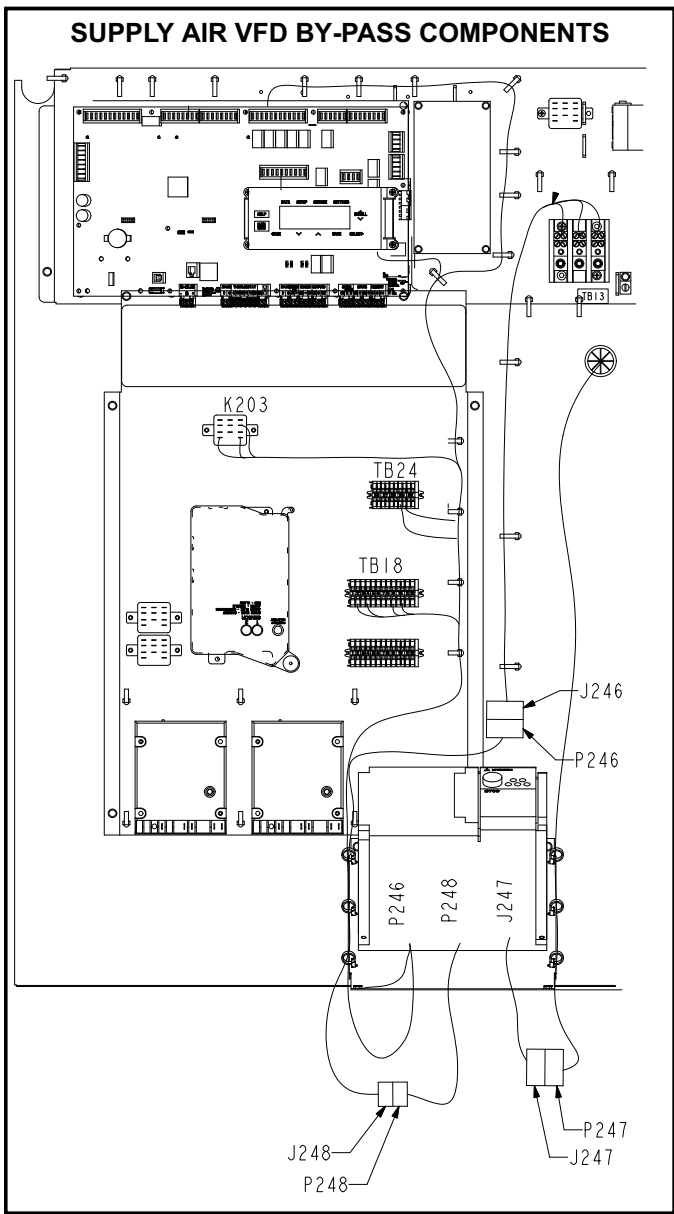

FIGURE 41
- 2- Locate K3, K203, J248 and J249 connectors near the VFD. See figure 41.
- 5- Locate VFD control relay K203 on the lower control panel. See figure 41.